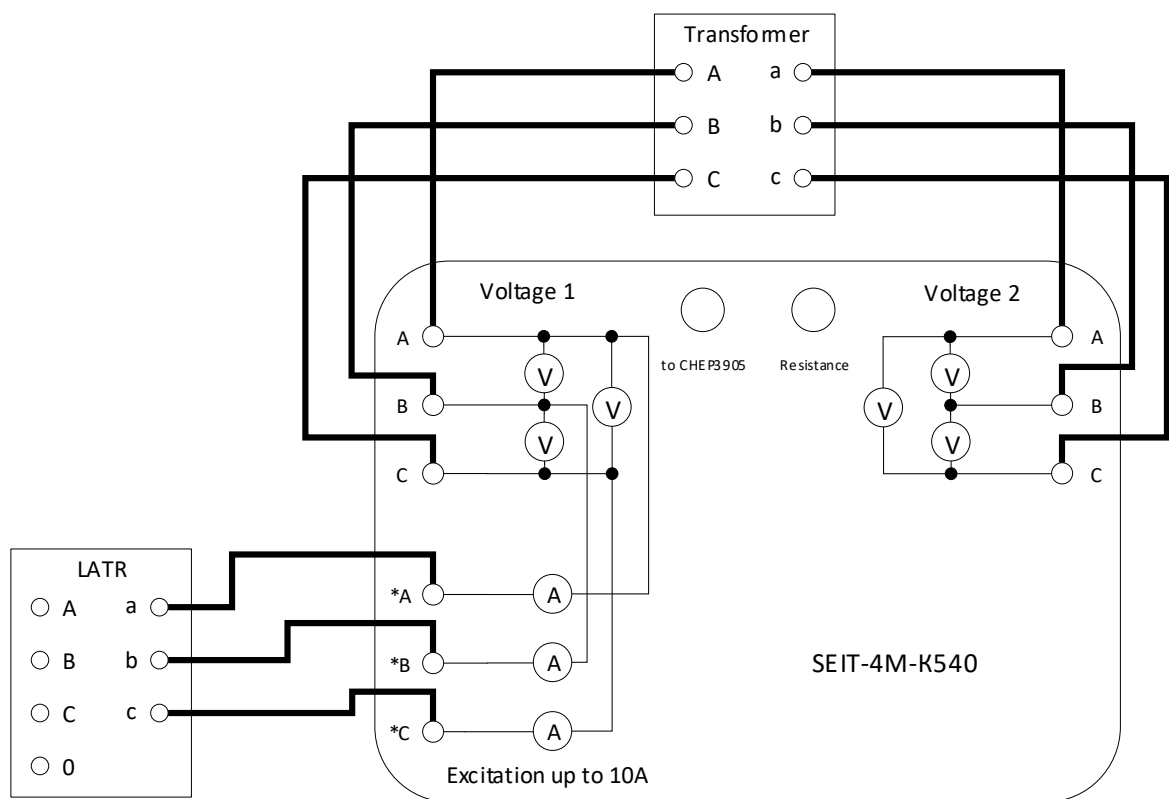

Fig. 7. Three-Phase Transformation Ratio Measurement Circuit
5.2.1. To measure the transformation ratio and determine the three-phase transformer winding connection group, assemble the measuring circuit shown in Fig.7.